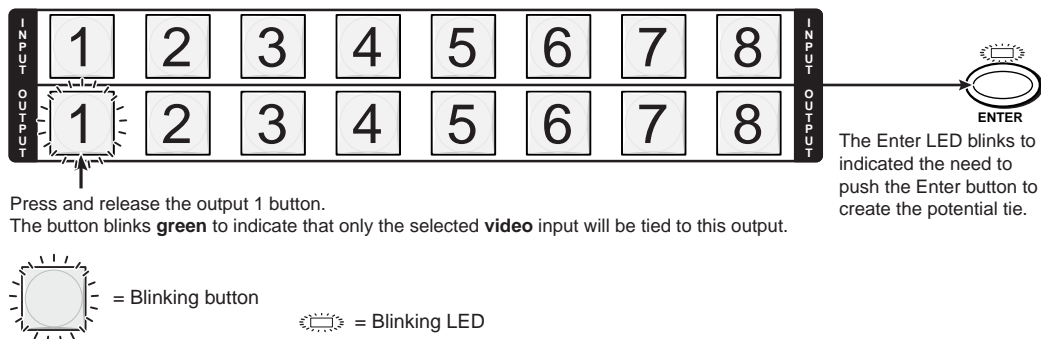

Figure 3-11 — Select the output
- Press and release the output 1 button (figure 3-11). The output 1 button blinks green to indicate a tentative video tie.